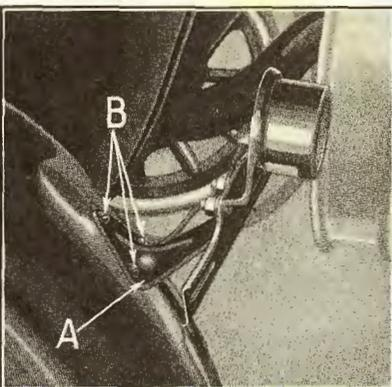

Fig. 540
- 1161** The new tail lamp and license bracket assembly is installed on the left rear fender (see "A" Fig. 540). When changing a left rear fender, it is therefore necessary to remove the bracket. This is done by disconnecting the tail lamp wire at tail lamp and running off the nuts from the ends of the three bracket to fender bolts "B". Bracket can then be lifted off of fender. To install the new tail lamp and license bracket, the procedure is reversed.